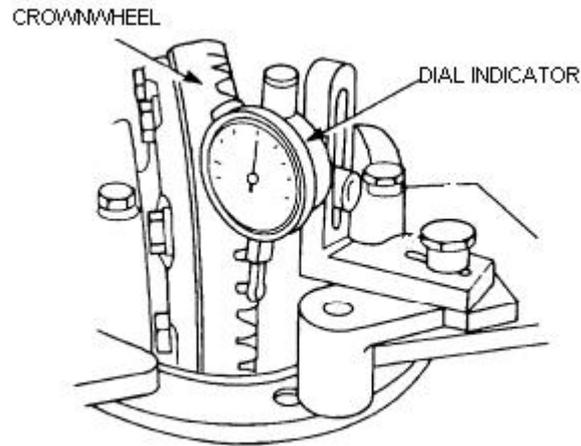

Figure 250 Differential Backlash Final Check
- hh. Position a dial indicator (Table 3, Serial 57) on the differential carrier flange (Figure 250) and place the stylus on a crown wheel tooth. Hold the pinion shaft flange and check the backlash between the crown wheel and pinion gear teeth. If the backlash is not between 0.20 to 0.25 mm (0.008 to 0.010 in), repeat the procedure described in sub-para gg.